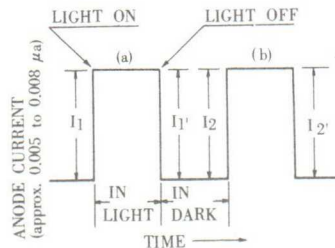
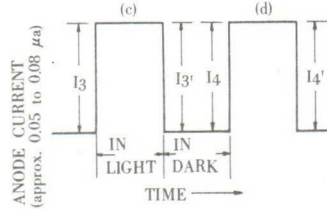

FIG. 2
FIG. 3
* The light intensity was adjusted so as to take the anode current (A) and (B) respectively.
3. The light pulse of from about 30 to 40 seconds interval was supplied to the tube as in the Fig. 2 and Fig. 3.